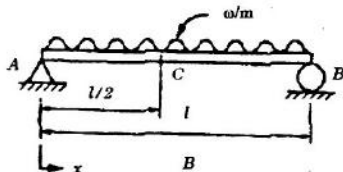

Fig. 11(b)
- (b) Find the deflection at the centre of the simply supported beam of span length 'l' subjected to uniformly distributed load throughout its length as shown in Fig. 11(b) using (i) point collocation method (ii) sub-domain method.